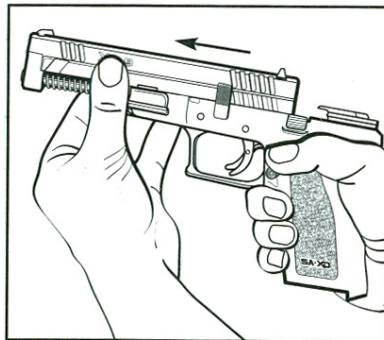

Figure 23-2
6. Move the complete slide assembly forward and off the frame. (Figure 23-2.)